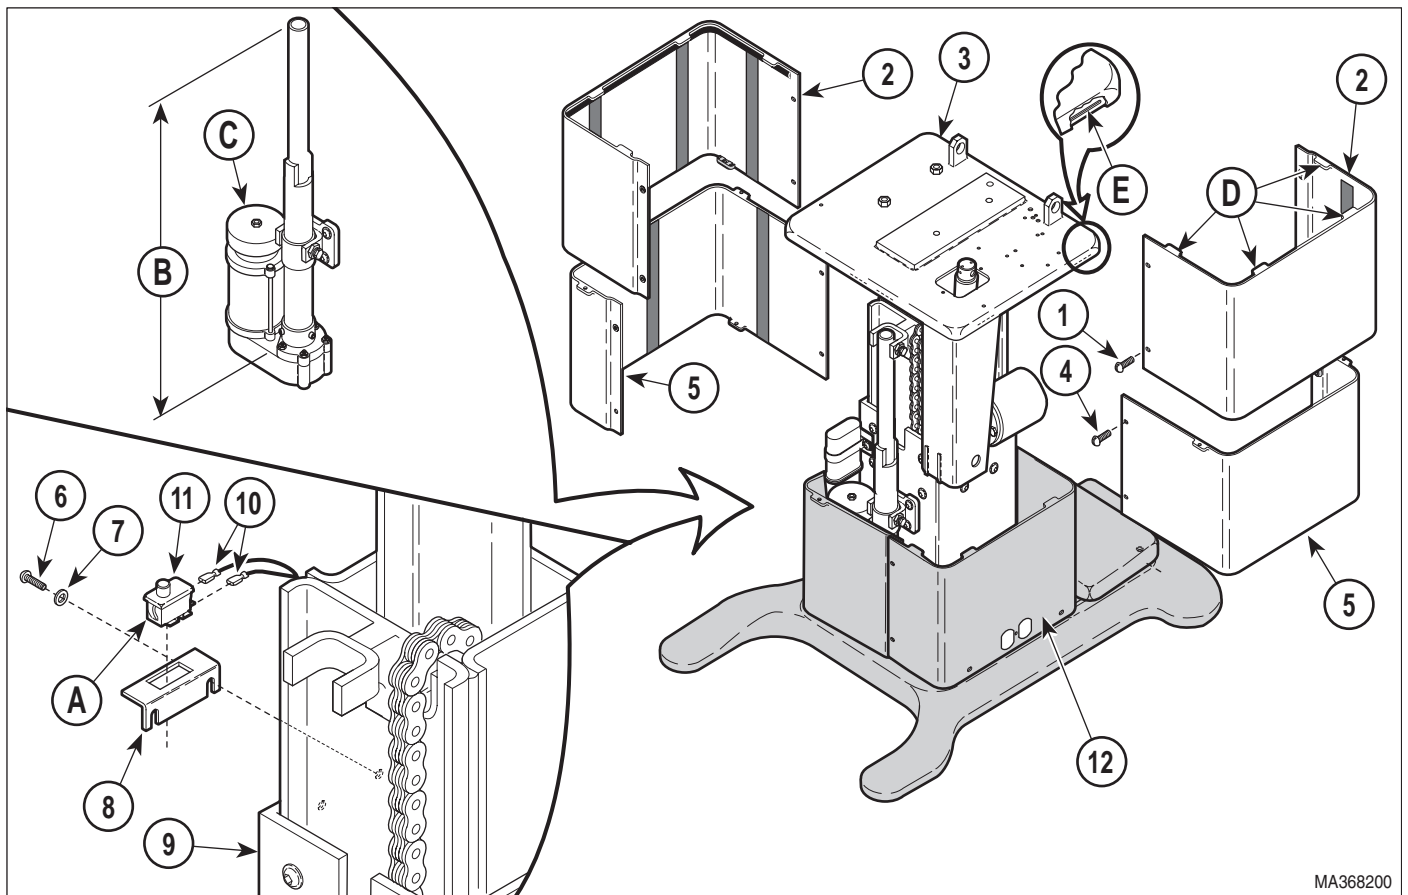

Figure 4-25. Base Down Limit Switch Removal / Installation
- (1) Unplug table power cord from outlet receptacle.
- (2) Remove four screws (1, Figure 4-25) and R.H. and L.H. outer shrouds (2) from column adapter weldment (3).
- (3) Remove four screws (4) and R.H. and L.H. middle shrouds (5).
- (4) Remove two screws (6), washers (7), and partially remove switch bracket (8) from column weldment (9).
- (5) Tag and disconnect two wires (10) from terminals of base down limit switch (11).
- (6) While simultaneously pressing on two locking tabs (A) of base down limit switch (11), push switch out of switch bracket (8)